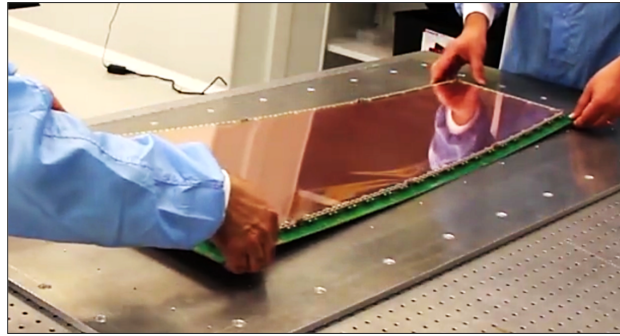

Figure 95: Moving to the stretching table.
Step 10: Move the chamber to the assembly jig, where the stretching will be performed (Fig. 95).